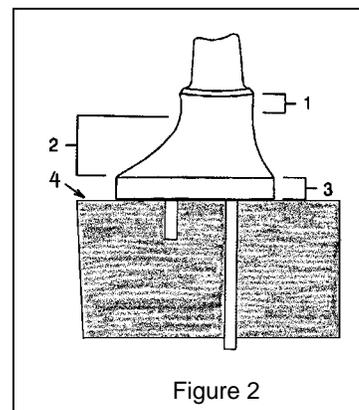

Figure 2
c) Die Trimming: The practice of excessively undercutting dies weakens the die, makes the margin very fragile, and contributes to the tendency for laboratory technicians to over-contour restorations. Figure 2 below shows the contours of a properly trimmed die.
- i) The laboratory technician can use a large acrylic bur for gross reduction of excess stone, trimming to within about 1 to 2 mm of the margin (die body area #2 in figure 2).
- ii) Final margin trimming should be done by the dentist using a sharp knife with good magnification and light (marginal zone area #1 in figure 2). A Bard Parker knife with #25 blade, or small “Beaver” blade #SM 67, can be used to allow easier access to the margins. Inexpensive Beaver blade handles can be obtained from Micro-Mark, (<http://www.micromark.com/>) Micro Knife Set Item #81067. DO NOT trim a dry die with a blade, since this will frequently result in chipped margins. Soak dies for approximately 2-5 minutes in “supernatant slurry” prior to trimming with the blade.
- v) The finished base should be smooth and seat fully to place (die base area #3 in Figure 2).
- vi) The base must be flush with the bottom of the die and cannot overlap and “lock” the die onto the base (#4 in Figure 2).